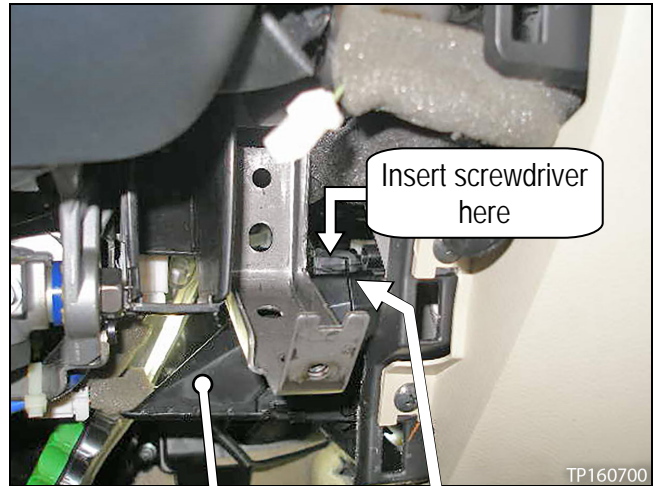

Figure 5
- a. Unfasten the heater duct by inserting a flat blade screwdriver and GENTLY twisting it to release the duct from the clip (see Figure 5).